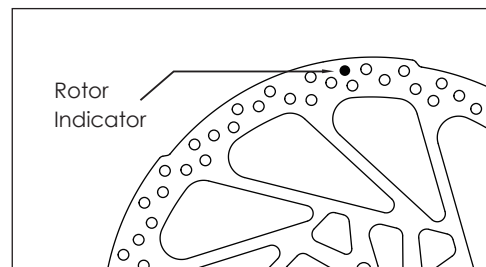

Fig 2
- If you see the rotor indicator has worn out and can barely see the black dot, please replace your rotor immediately. (Fig. 2)